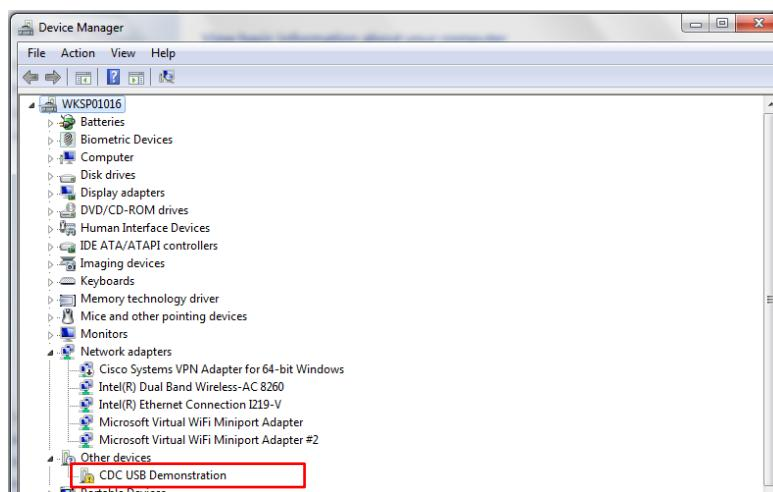

Figure 6 Target device in Device manager (Windows 7, 8)
- b. Select "Device Manager" from the left, look for "Unknown Device" or "CDC USB Demonstration" under "Other devices" (Refer to Figure 6). Some OS detects "RTK0EF0029Z0000xBx" from the beginning.